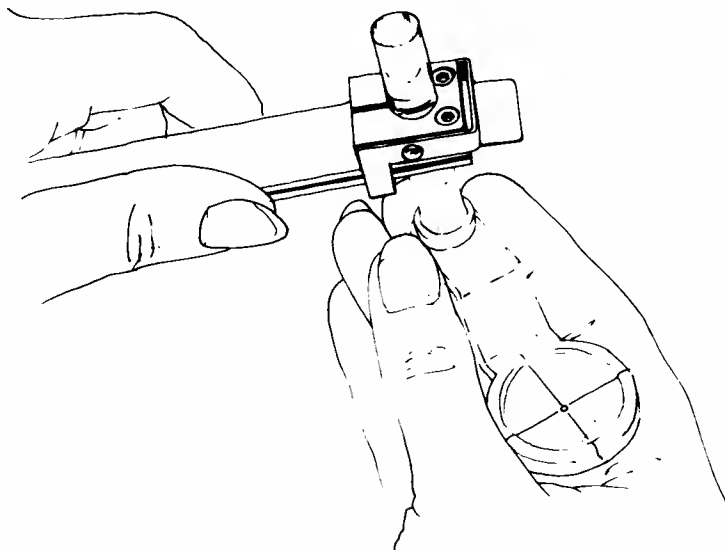

Figure 4. Cursor
4. Gently reverse the position of the Cursor (on the end of the Traverse Arm) by turning it around so that it is not under the Traverse Arm. (See Figure 4.) Note that the "bottom" of the Traverse Arm has a delicate grid (with black stripes). The "top" of the Arm is bare metal.